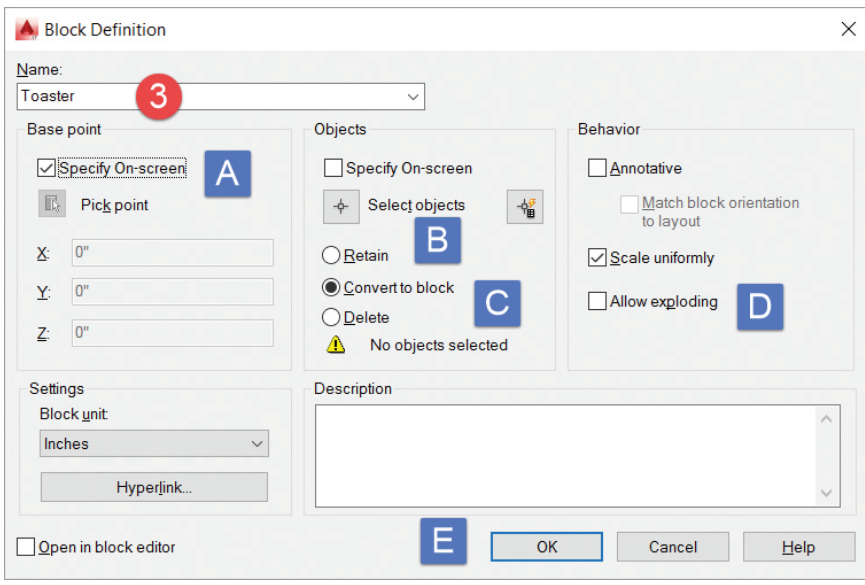

Figure 2
- A. Give the block a name: "Toaster" (see Figure 2)